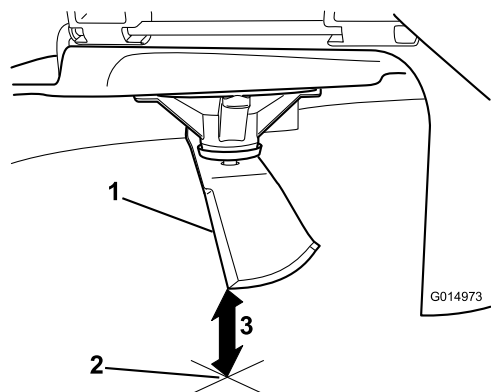

Figure 100
5. Measure from the tip of the blade to the flat surface (Figure 100).